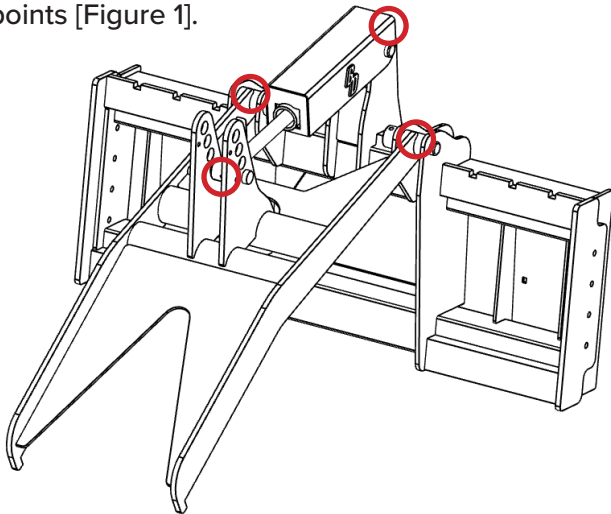

Figure 1
The Severe Duty Grapple Fork has four (4) grease points [Figure 1].